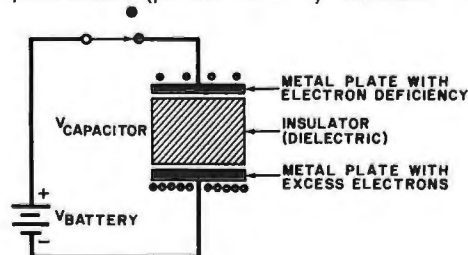
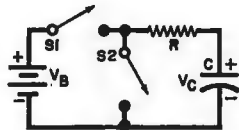
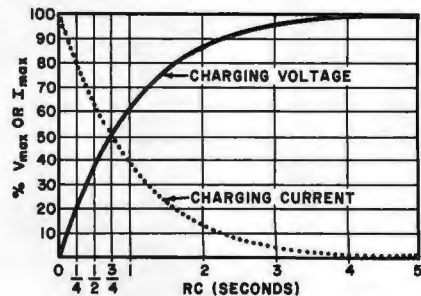
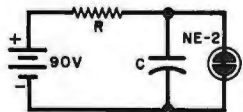

Fig. 1. The capacitor is basically a charge storing device.
Fig. 2. Simple RC circuit.
Fig. 3. Universal curves of charging voltage and current versus time.
Fig. 4. Basic relaxation oscillator.
Every capacitor consists of two conductive plates separated by an insulating medium called a *dielectric* (Fig. 1). When a dc voltage is applied across the capacitor (by closing the switch), electrons start flowing from the negative terminal of the battery onto the bottom plate of the capacitor. Simultaneously, the battery's positive terminal attracts electrons from the top plate. At first, the electrons flow fairly easily. But as more and more of them are piled up on the bottom plate, it becomes increasingly harder for any more electrons to join them.
million electrons!) is equal to the applied voltage times the capacitance in *farads*. (The farad, which is the basic unit of capacitance, is so named to honor the British scientist Michael Faraday.) Thus we see that the capacitance of a capacitor is a measure of how much charge it can hold. And this presents the key to understanding the capacitor—it is an *energy storing* device. If we open the switch in Fig. 1, the voltage across the capacitor remains the same. No current will flow through the dielectric to *discharge* the capacitor if the dielectric is a good insulator. So, the charges are trapped on the metal plates. We could attach a light bulb (or any other load) across the capacitor and it would behave like a battery until enough current flowed from one plate to the other to compensate for the charge unbalance. At that point, the voltage across the capacitor would be zero, because its charge would have been depleted.
If we were to close switch  $S1$  of the circuit in Fig. 2, and monitor the voltage across the capacitor with a voltmeter or oscilloscope, we would see that the voltage starts to build up rather quickly, but then the rate of increase drops off. Graphing the voltage against time or taking a snapshot of the scope trace would yield the solid-line curve shown in Fig. 3. It is an exponential curve that is universal in terms of the  $RC$  time constant.
time constants the capacitor voltage is about 86% of the battery voltage, increasing to about 98% after four time constants. Theoretically, it would take the capacitor an infinite amount of time to charge to the full battery voltage; but, as a practical matter, we will consider the capacitor to be fully charged after 5 time constants have passed. Unlike voltage, charging *current* decreases with time. It is shown as the dotted curve in Fig. 3, and essentially is a mirror image of the voltage curve. We can see that charging current never stops (it would take an infinite time to do so), but after 5 time constants it is less than 1% of its initial turn-on value.
In the theoretical case shown in Fig. 1, the capacitor will hold its charge forever after it is disconnected from the voltage source, if its leakage resistance is infinite. Although this is never the case in practical components, good capacitors will hold most of their charge for a reasonably long time. (That's why it's dangerous to handle line powered electronic equipment *after power has been removed* if you haven't discharged the filter capacitors with a shorting stick.) But what happens if we allow capacitor *C* to discharge through *R*? We can do this by opening *S1* in Fig. 2 and then closing *S2*—which has been open up to this point.
**RC Relaxation Oscillators.** One circuit that is directly governed by the *RC* time constant is the *relaxation oscillator*. It depends on the alternate charging and discharging of a capacitor through a resistance. Probably the simplest relaxation oscillator you can build is a neon lamp flasher, shown in Fig. 4. The circuit is similar to that of Fig. 2, but we have added a neon bulb in parallel with the